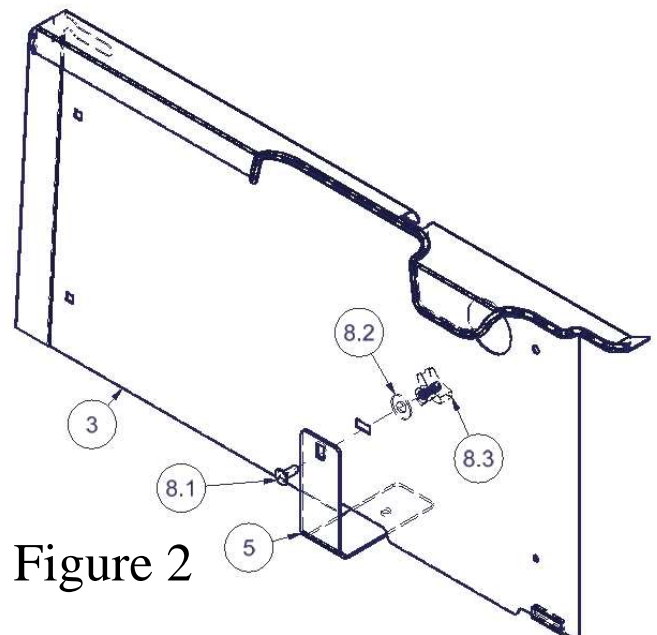

Figure 2
2. Assemble the #3 Left Panel by attaching (1) #5 Mounting Bracket as shown in Figure 2.